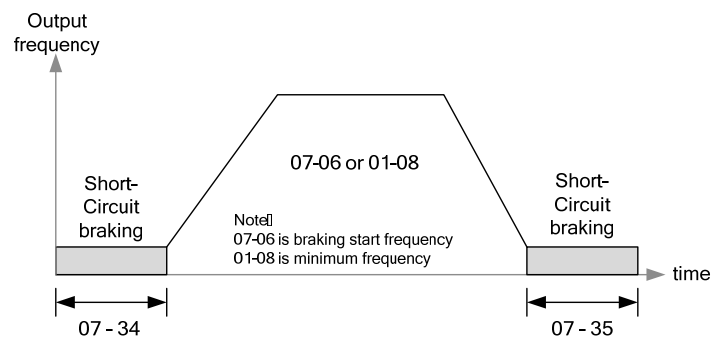

Figure 4.3.57b PMSLV short-circuit braking
- Please refer fig 4.3.57b for short-circuit braking function.